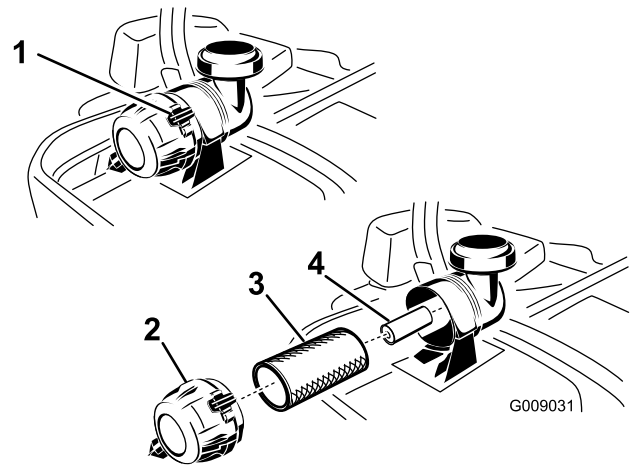

Figure 38
3. Push down to release the retaining clamps on the air cleaner and pull the air cleaner cover off of the air cleaner body (Figure 38).
5. Gently slide the primary filter out of the air cleaner body (Figure 38). Avoid knocking the filter into the side of the body.
1. Do not clean the paper filter, replace it (Figure 38).
2. If the secondary filter is being replaced, carefully slide it into the filter body (Figure 38).
3. Carefully slide the primary filter over the secondary filter (Figure 38). Ensure that it is fully seated by pushing on the outer rim of the filter while installing it.
4. Install the air cleaner cover with the breather cap down and rotate so the retaining clamps lock the cover in place (Figure 38).